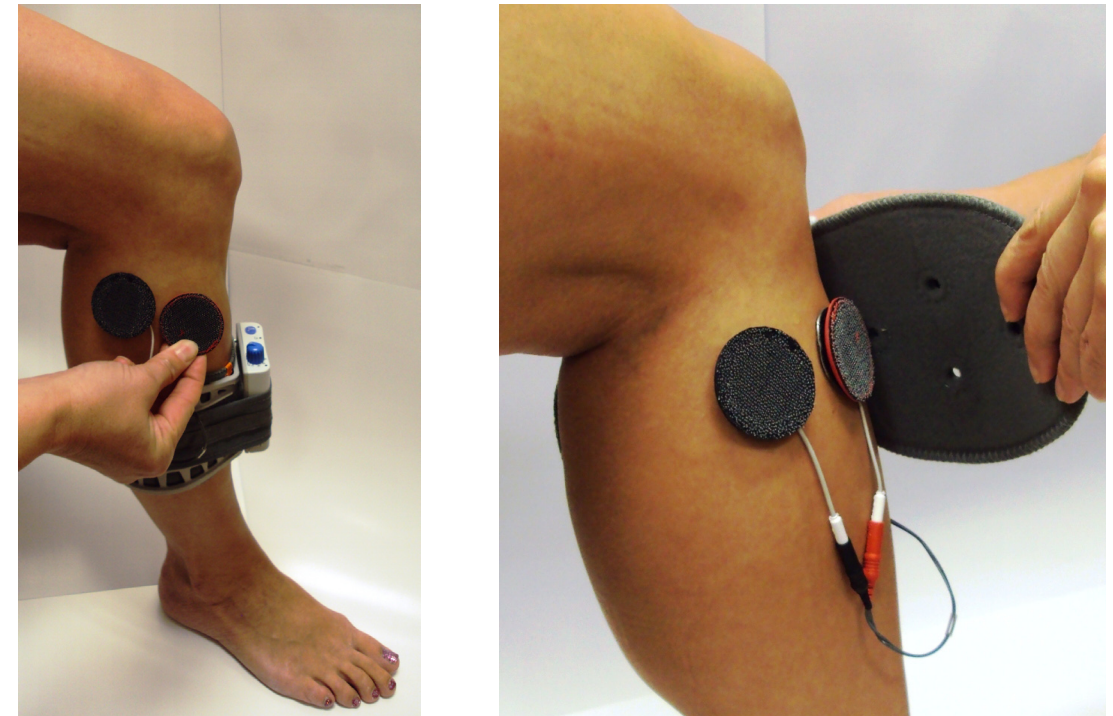

Figure 28: Carefully align the cuff over the electrodes and secure the leg
- Once the optimal electrode positions have been found, place Black & Red Markers over the electrodes. Turn off the WalkAide, release the cuff strap and properly align the cuff over and around the pretibial region. (Figure 28)